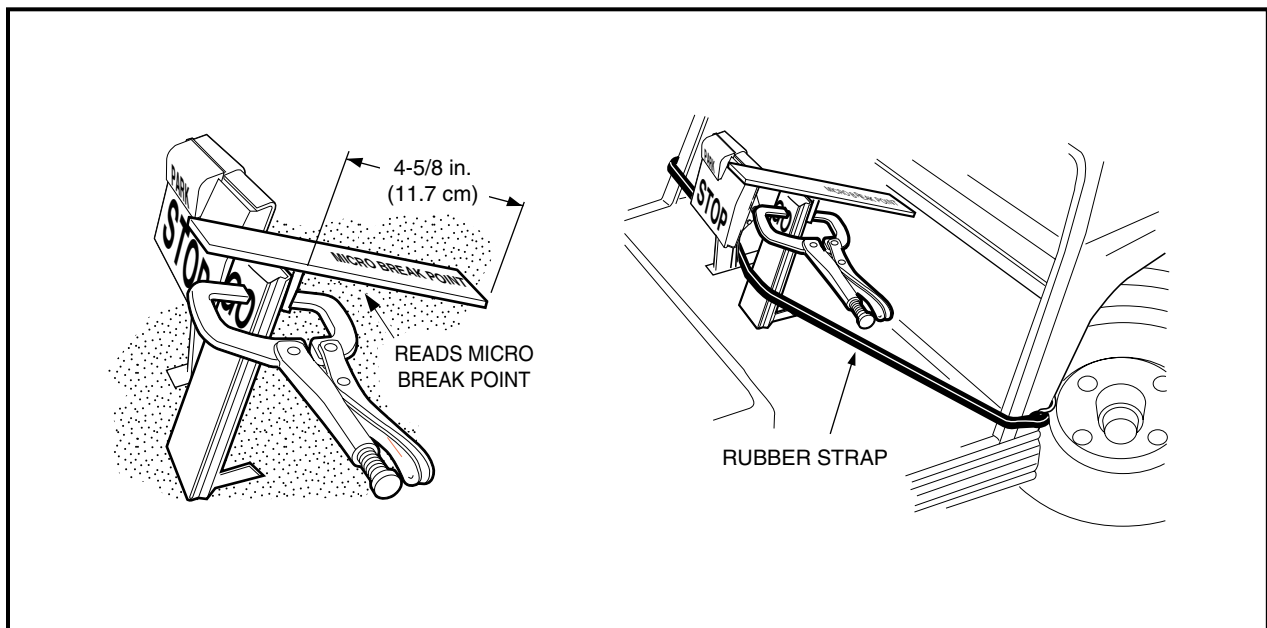

Figure 5-24 Micro Break Point Adjustment
- 5.5. Reposition and clamp the accelerator pedal adjustment tool on the accelerator pedal with the end marked micro break point toward the floorboard, then depress the pedal until the end of the tool rests against the floorboard (pedal height should be 4-5/8 inches) (11.7 cm). Use a rubber strap to hold the pedal in depressed position and proceed to step 5.6. (**Figure 5-24, Page 5-25**).